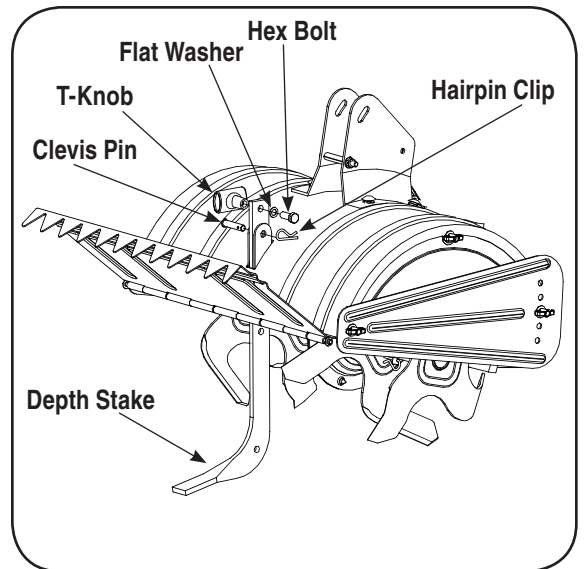

Figure 1
- Unthread the "T" knob from the top of the depth stake and remove the flat washer and hex bolt. Remove the hairpin clip from the clevis pin. See Figure 1.
- Insert a hex bolt into top hole of the depth stake assembly. Place flat washer on the hex bolt and thread "T" knob onto the hex bolt. Tighten securely. See Figure 1.